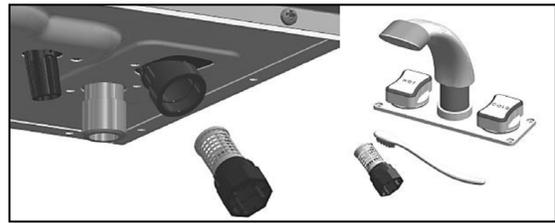

Figure 50 - Draining the Water Heater; Cleaning the Filter
5. Remove the cold water inlet filter. Then clean it with a toothbrush and clean running water. See Figure 50.